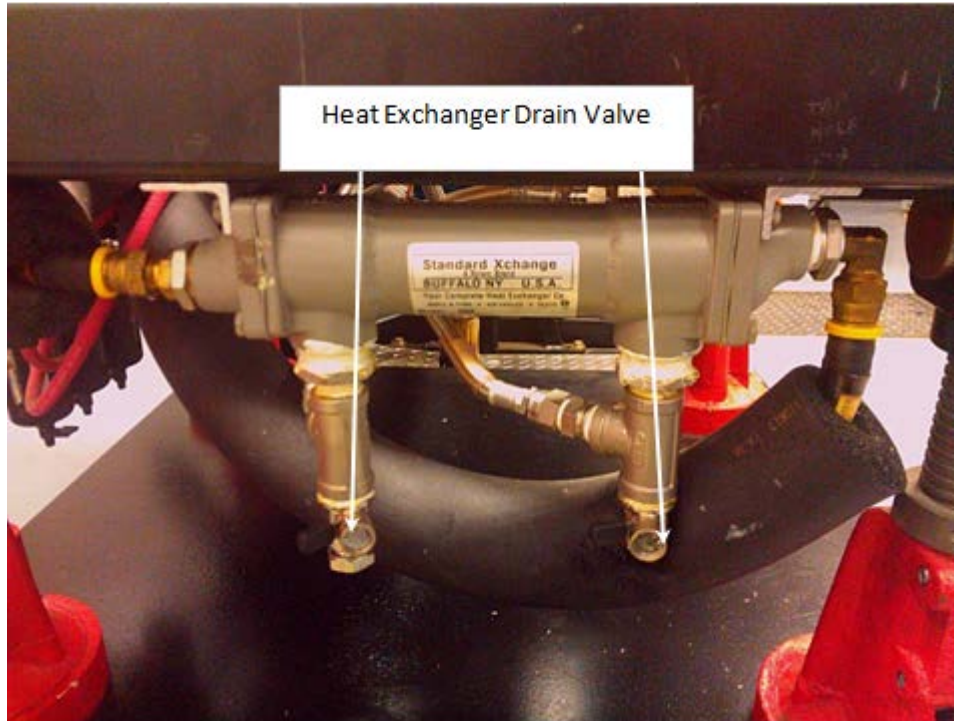

Figure 5: Engine Oil Heat Exchanger Drain Valve Locations
- 3.3. At the end of one (1) hour, de-energize the flush cart pump. Open both engine oil heat exchanger drain valves (see Figure 5). Disconnect the supply and return lines from the flush cart.